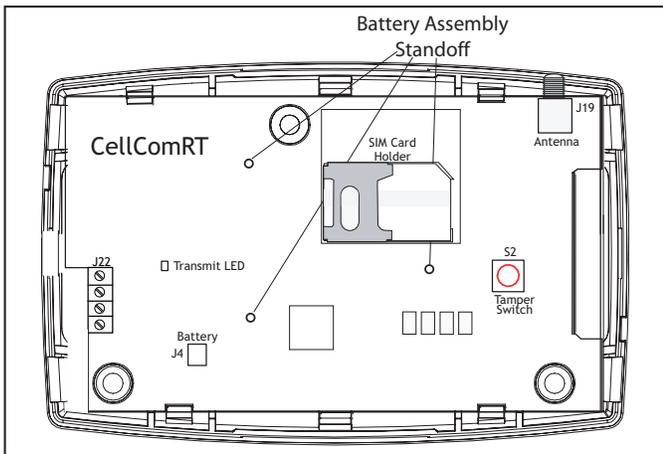

Figure 5: Battery Assembly Standoffs
1. Align the three battery PCB standoff mounting holes with the standoffs. See Figure 5.